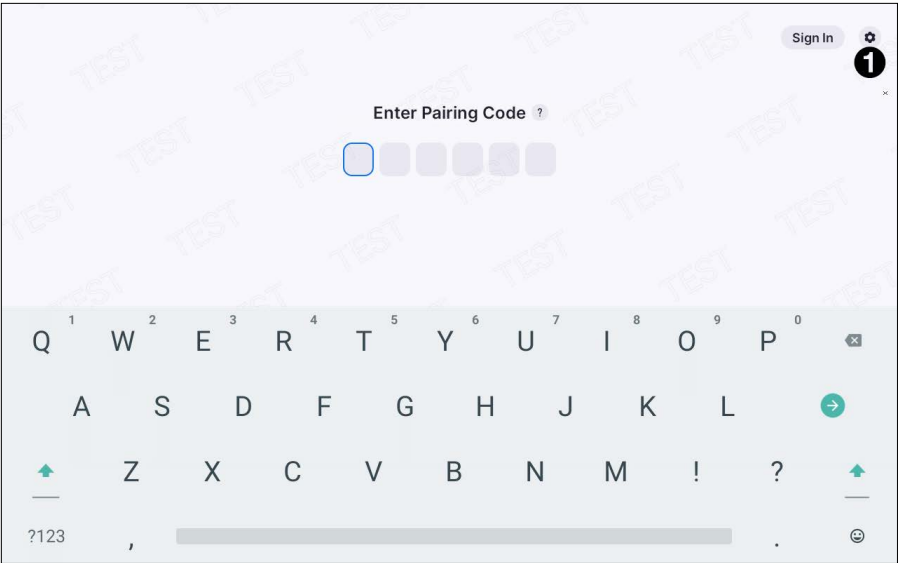

Figure 5. Click Settings Icon
2. Click the settings (gear) icon (see figure 5, ❶).